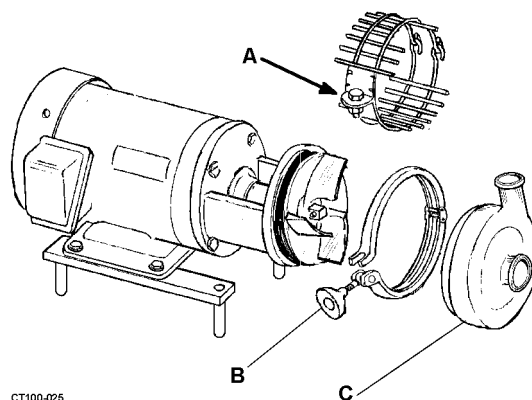

Figure 28 - Casing Clamp Guard Assembly
7. Place the casing over the impeller/backplate, close and tighten the clamp. See Figure 28.